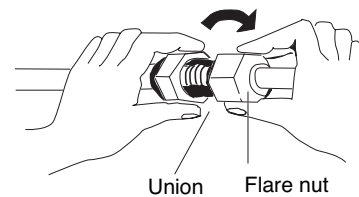

Fig. 9-5
- (1) Power on all indoor units. Next, power on the system controller. **SETTING** will flash, checking the indoor unit addresses automatically.
- (2) If group No. displayed on system controller is not the same as the indoor unit No.* which is connected, see Fig. 9-5 and carry out setting again.
- (3) For proper connection, align the union tube and flare tube straight with each other, then screw on the flare nut lightly at first to obtain a smooth match. (Fig. 9-5)